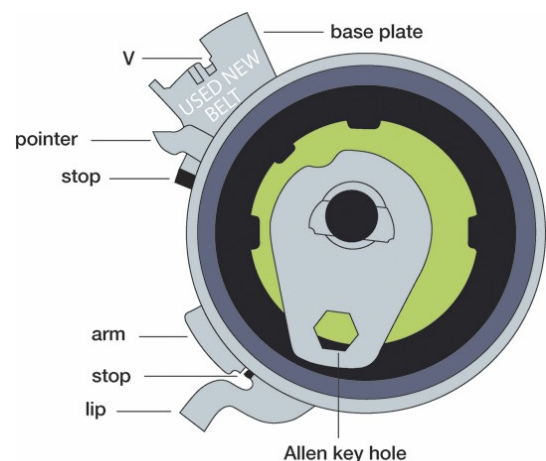

Fig. 1
- Install new tensioner, hand tighten bolt. Tensioner lip **has to be** in oil pump housing slot. (Tensioner pointer has to sit behind water pump pulley). The Allen key hole has **to be set** in +/- 7 O'clock position (fig. 1).